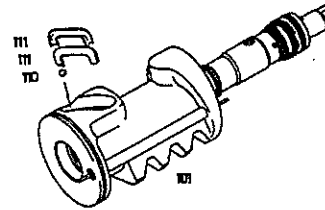

Fig.21
Insert worm (151) into the bore in piston (101) so that the balls (110) from the front piston bore for the recirculating pipe can be filled into the threaded bore of worm (151) (Fig.21).
Reinsert worm (151) into piston (100) so that the balls (110) selected earlier can be fitted and the recirculating tube (111) can be inserted in piston (100) (*see Fig.21*).